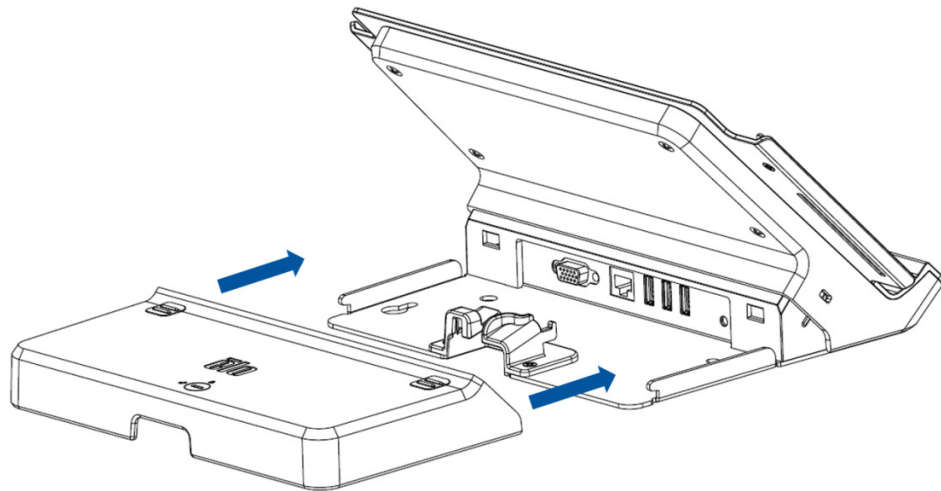

Figure 11: Sliding the back cover back onto the docking station
5. Slide the dock cable cover back onto the docking station (as shown in Figure 11 below) until you hear a click to re-install the cable cover. The dock cable cover has an opening through which cables can route through.